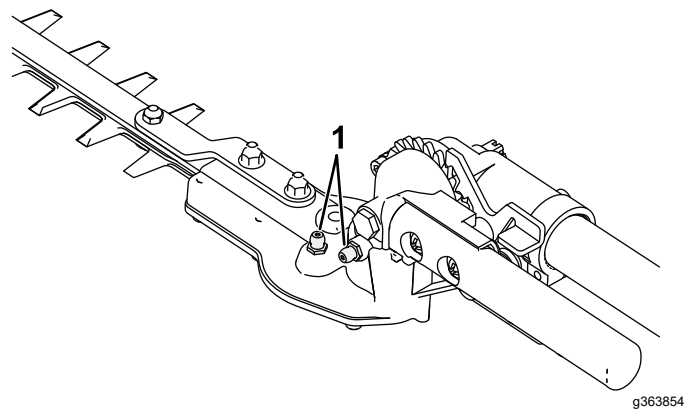

Figure 11
2. Clean the grease fittings with a rag (Figure 11).